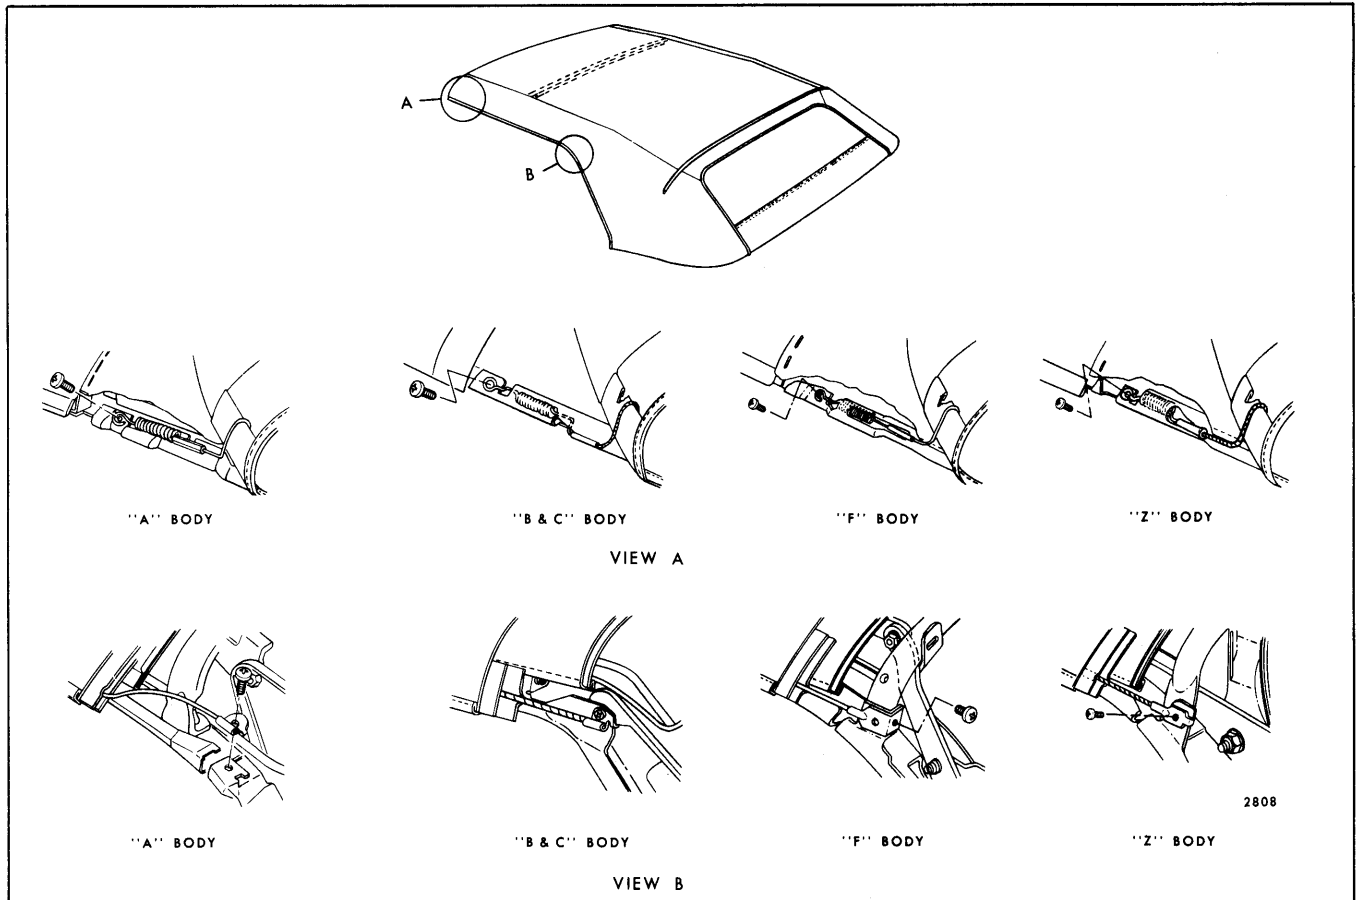

Fig. 13-2—Convertible Top Material Hold Down Cable
12. At right and left side roof front and rear rails, remove hold-down cable front and rear attaching screws. (See Views "A and B" in Fig. 13-2.)